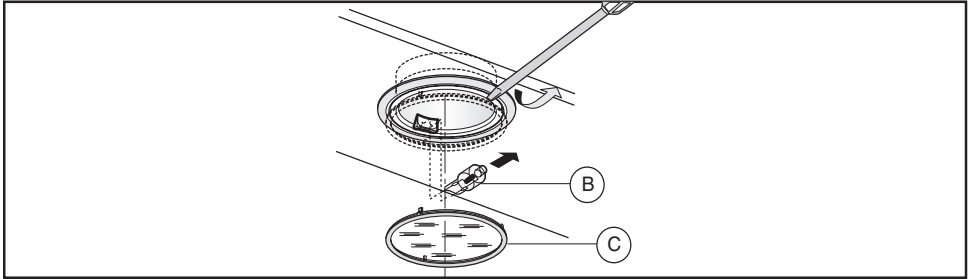

Fig.17
• Replacing halogen light bulbs (Fig. 17).